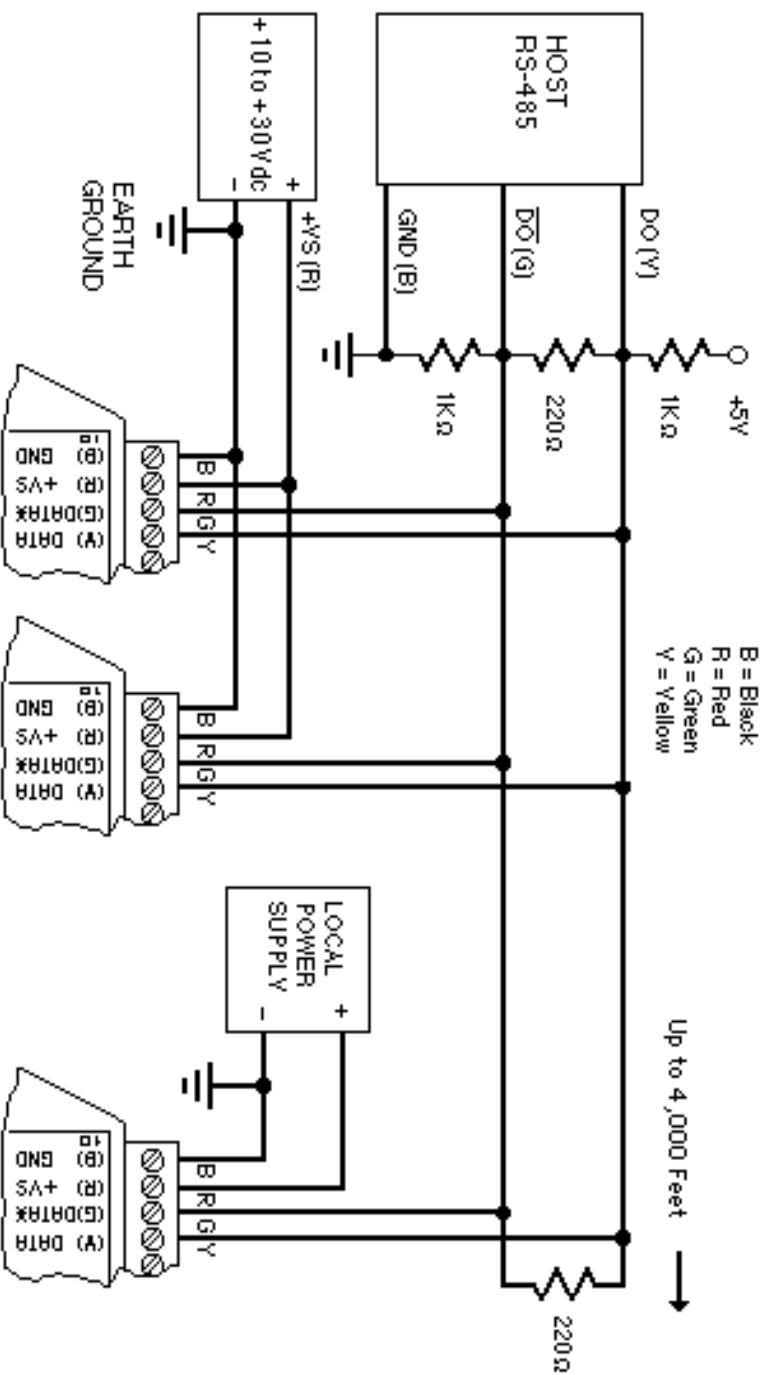

Figure 3.2 RS-485 Network.
Figure 3.2 illustrates the wiring required for multiple-module RS-485 system. Notice that every module has a direct connection to the host system. Any number of modules may be unplugged without affecting the remaining modules. Each module must be setup with a unique address and the addresses can be in any order. All RS-485 modules must be setup for no echo to avoid bus conflicts (see Setup). Also note that the connector pins on each module are labelled with notations (B), (R), (G), and (Y). This designates the colors used on standard 4-wire telephone cable:
During normal operation, there are periods of time where all RS-485 drivers are off and the communications lines are in an 'idle' high impedance condition. During this condition, the lines are susceptible to noise pickup which may be interpreted as random characters on the communications line. To prevent noise pickup, all RS-485 systems should incorporate 1K ohm bias resistors as shown in Figure 3.2. The resistors will maintain the data lines in a 'mark' condition when all drivers are off.